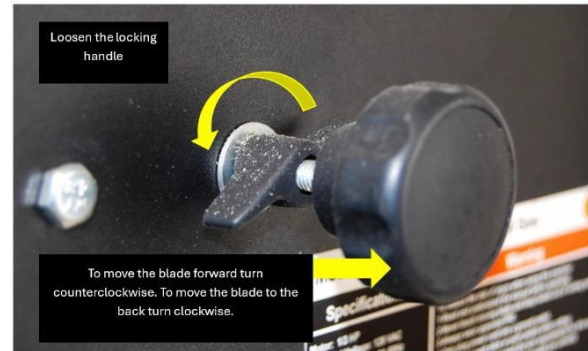

Figure 8: Adjusting the Blade Tracking.
- 3- Loosen the locking knob as shown in figure 8.
- 4- Use the adjustment knob to move the blade see figure 8.
- 6- If you want the blade to move backwards turn the knob clockwise. See figure 8 above.